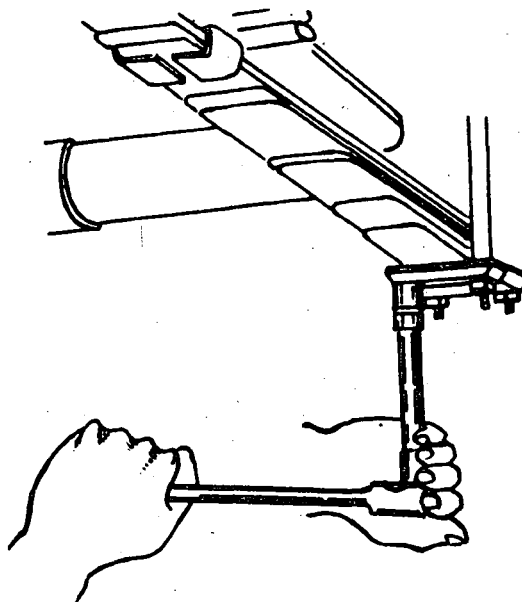

Fig. 3
- b) Replace the "U" bolt plate of the unit and tighten the nuts (fig. 3).